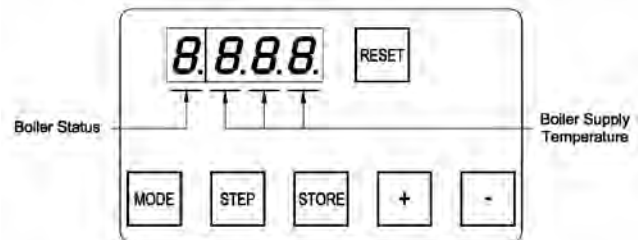

Figure 49: Normal Display In Standby Mode
Under normal conditions, the boiler is in standby mode and the display looks like that shown in Figure 49. The three digits to the right of the decimal point are the boiler’s supply temperature. The digit to the left of the decimal point is the boiler’s status code. A list of status codes, and their meanings, is shown in Table 26.
- c. “*Stby*” for Standby Mode. Upon entering standby mode, “Stby” will briefly appear on the display and then the display will show the boiler’s status along with the supply temperature (Figure 49).